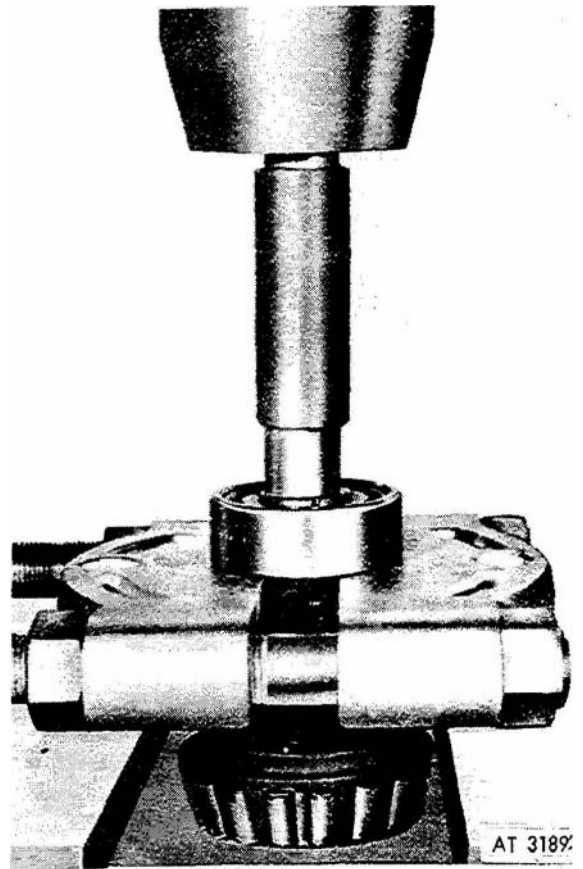

Figure 3-96. Pressing front bearing from pinion.
(11) Remove retaining ring (55, fig 3-88) and Dress bearings (49 and 54) from pinion (53) as shown in figures 3-96 and 3-97.